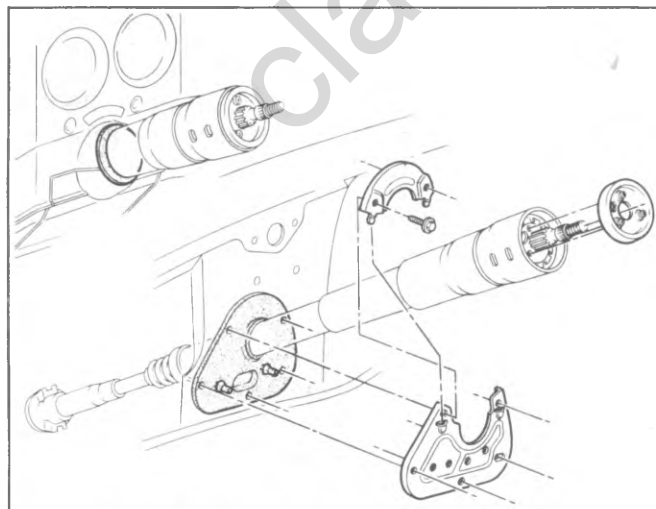

Fig. 3B-62--Steering Column Cover and Seal
1. Before replacing the switch, be sure that the lock is in the "Lock" position (fig. 3B-61); if it is not, a screwdriver (placed in the locking rod slot) can be used to move the switch to "Lock".